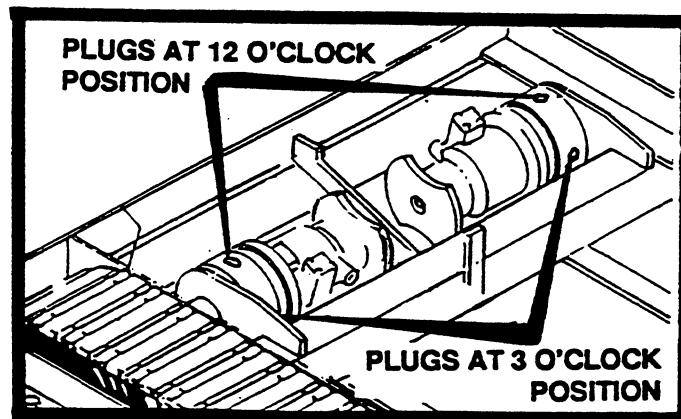

FIGURE 29
1. Check oil level in the torque hub by removing the plug at the 3 o'clock position. If oil comes out no oil is needed. Insert plug and tighten. If oil does not come out, remove the plug at the 12 o'clock position and fill torque hub with 90 wt. gear oil until oil starts to appear at the other hole. Replace both plugs and repeat process to other torque hub. See Figure 29.